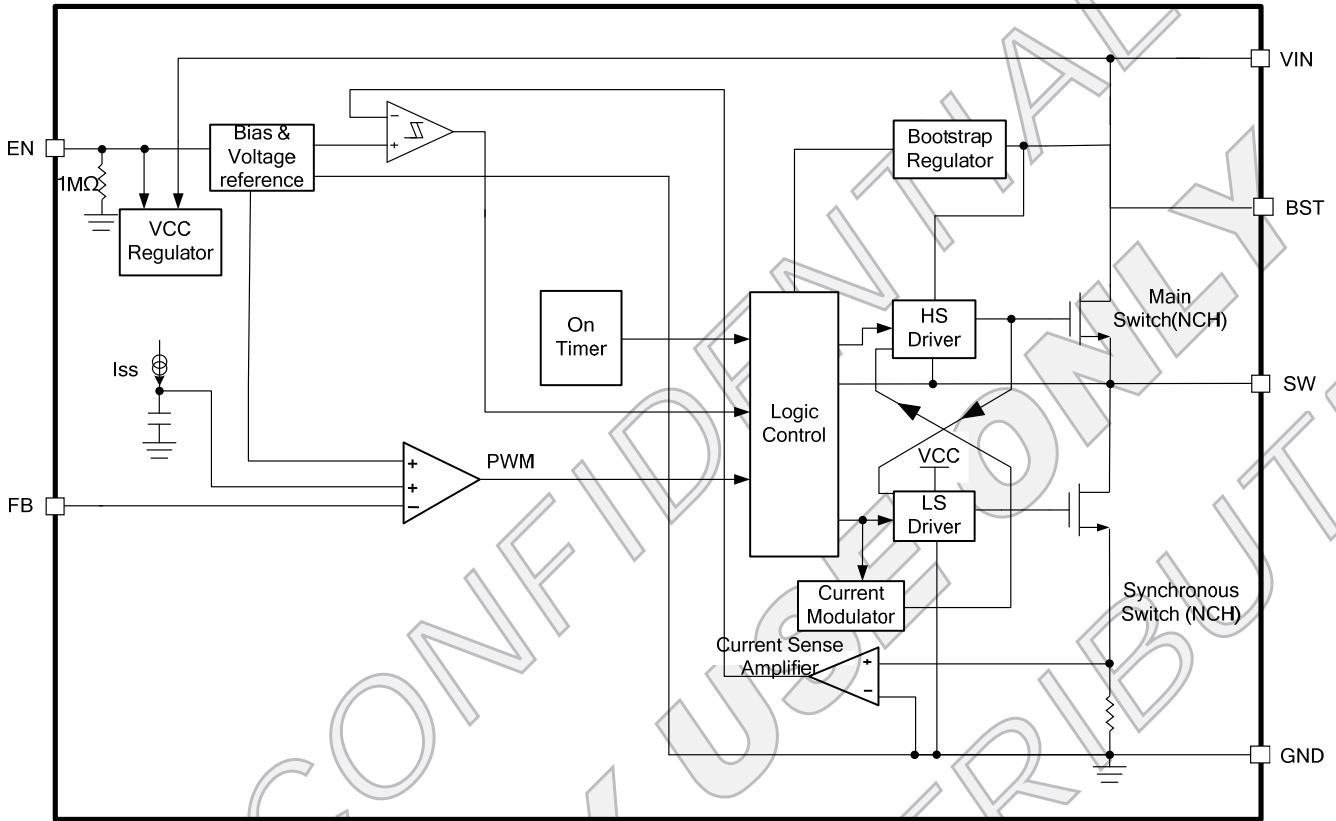

Figure 1: Functional Block Diagram
MP1653 has valley current limit control. During LS-FET ON state, the inductor current is monitored. When the sensed inductor current hits the valley current limit, the LS limit comparator (shown in Figure 1) turns over, the device enters over-current protection mode, HS-FET will wait until valley current limit disappear to turn on again. Meanwhile, the output voltage drops until VFB is below the under-voltage (UV) threshold—typically 75% below the reference. Once UV is triggered, the MP1653 enters hiccup mode to periodically restart the part.